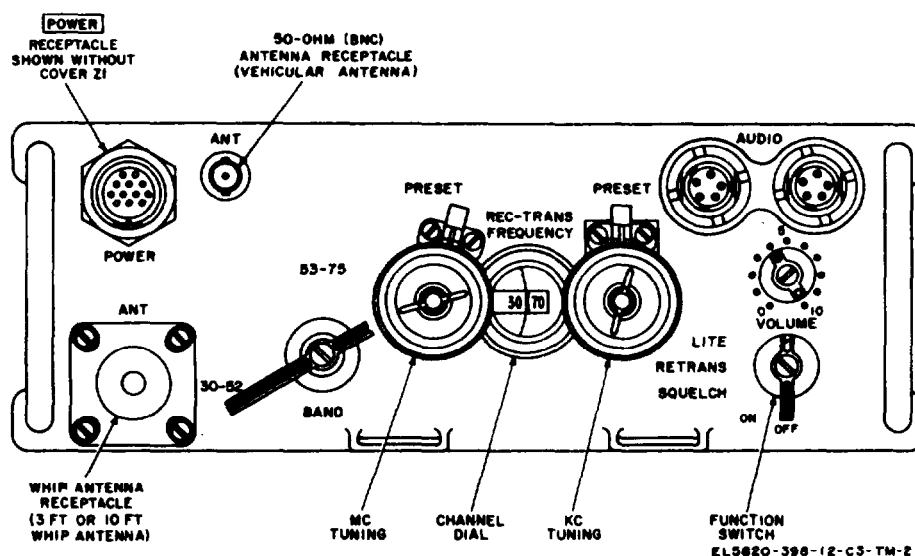
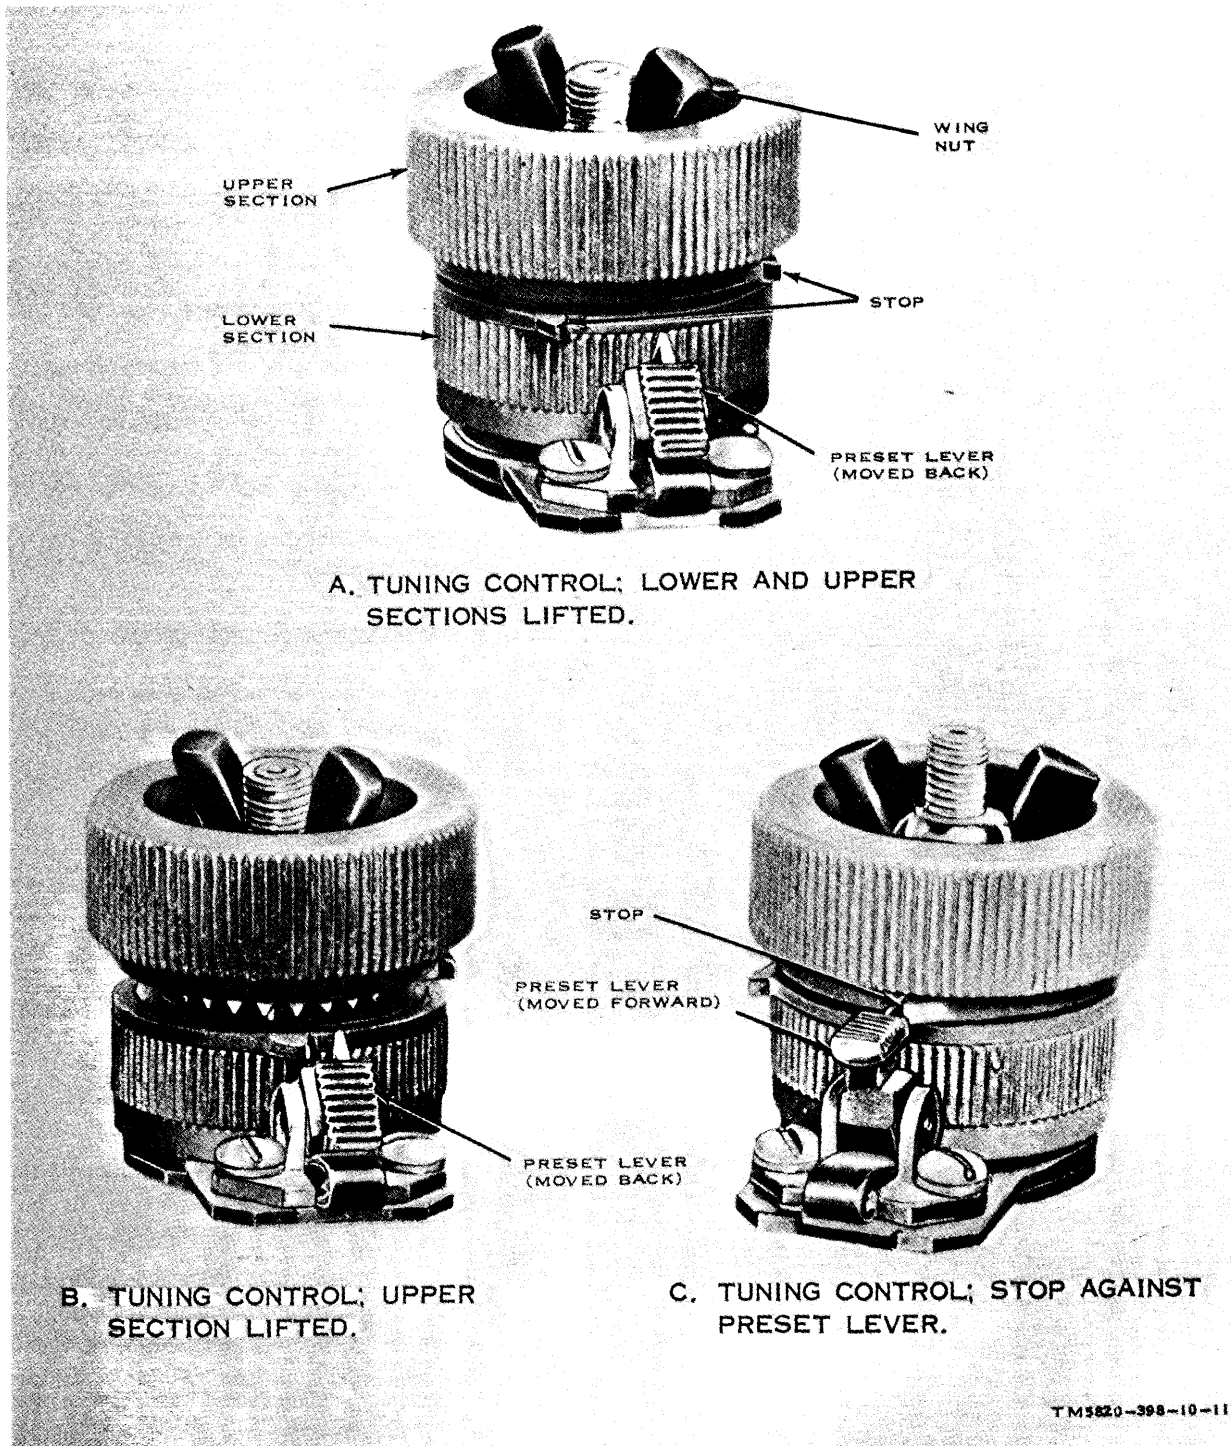

Figure 3-1. Receiver -transmitter, controls, indicator, and connectors.
Figure 3-2. Presetting mc and kc tuning controls
(1) Remove the cover from the ANT mount (fig. 3-1).
(2) Screw the bottom of the AT-892/PRC-25 into the ANT mount. Make sure AT-892/PRC-25 is tightened down fully; check its tightness often. See caution in *d* below.
(2) Screw Support, Antenna AB-591/PRC-25 into the ANT mount.
3-1. Receiver-Transmitter, Radio RT-505/PRC-25, Controls, Indicators, and Connectors (fig. 3-1)
(fig. 3-1 and 3-2)
On the mc and kc controls (fig. 3-1) are pre-set levers that can be set to catch the stops on each control (fig. 3-2). Thus, when two channels are preset, they can be selected without looking at the channel dial (fig. 3-1). Use the procedures in a below to set the kc control; use the procedures in b below to set the mc control.
When presetting the controls, the two frequencies to be set must be considered the lower and the higher frequencies; and the sections of each tuning control as the inner (next to the front panel) and the outer sections (fig. 3-2).
(1) Set the preset lever away from the kc control (A and B, fig. 3-2).
(2) Set the kc control so that the lower frequency appears on the channel dial.
(3) Position the preset lever forward against the control (C, fig. 3-2) and loosen the wingnut on the control.
(4) Pull up on the lower section of the control and turn it counterclockwise until the stop on the lower section strikes the preset lever. Tighten the wingnut.
(5) Position the preset lever away from the control.
(6) Turn the control until the higher frequency appears in the channel dial (both sections move).
(7) Loosen the wingnut and position the preset lever forward against the control.
(8) Without disturbing the setting of the lower section, pull *on* the upper section and turn it clockwise until its stop strikes the preset lever.
(9) Keeping the upper section against the preset lever, tighten the wingnut.
(10) Check the settings for the lower and higher kc frequency settings by turning the control counterclockwise to the stop for the lower kc frequency, and clockwise to the stop for the higher kc frequency.
(11) Set the *mc* control (b below).
3-3. Selecting Preset Channels (fig. 3-1 and 3-2)
3-4. Operating Procedure (fig. 3-1)